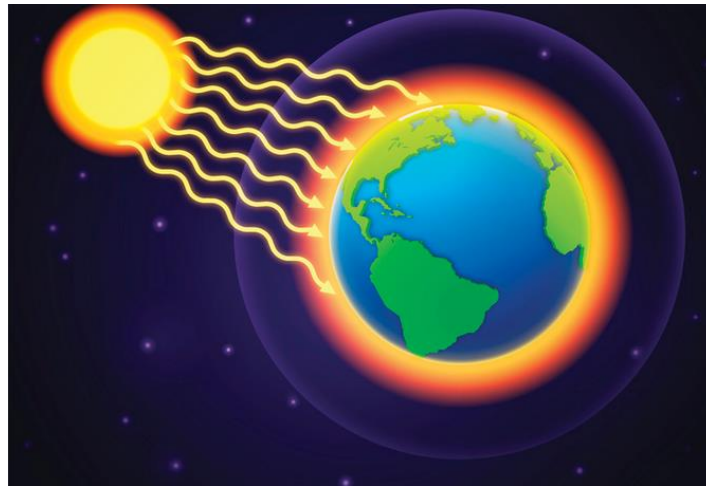

Figure 20. Radiation transport
- **Description:** Heat transfer through electromagnetic waves (infrared radiation) without the need for a medium (Figure 20).